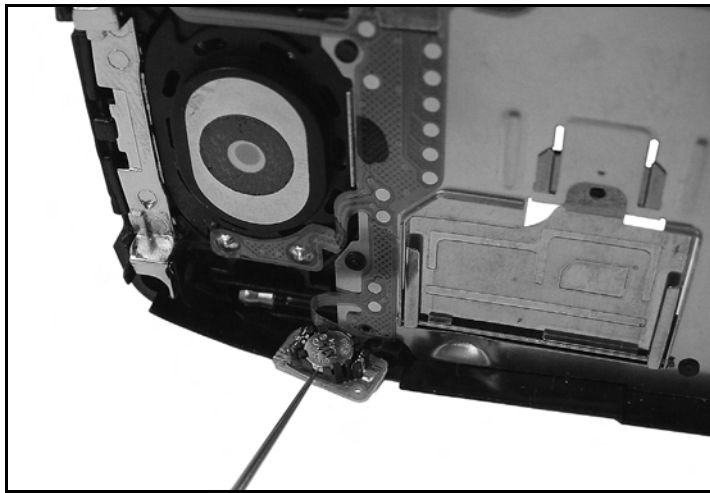

Figure 7-7.
3. Grasp back housing in the left hand while holding the coin cell holder, parallel to the housing, between the thumb and index finger. The flex ribbon should be gently curved in a U-shape (see Figure 7-7).